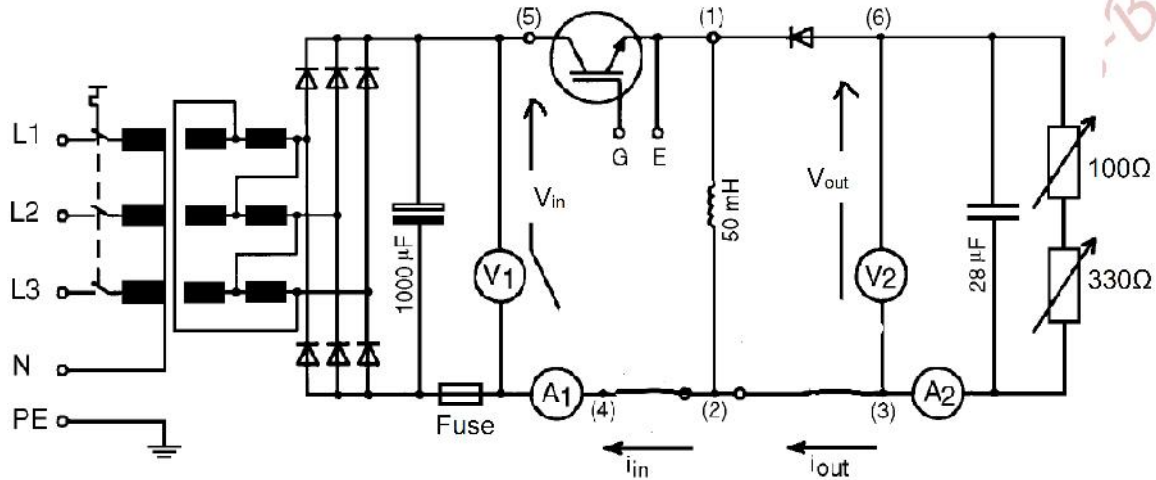

Figure 6.4 The equivalent power circuit of a Step-down/Step-up (Buck-Boost) converter implementing an IGBT
- The equivalent power circuit of the Step-down/Step-up (Buck-Boost) converter is shown in Figure 6.4. It implements an IGBT as a switch.
- A fuse (Fuse, Three-Fold, Super Fast Cat. No. 735 18) is connected at the lower side of the input to the Buck-Boost; between the Rectifier capacitor and the Buck-Boost, as shown in the equivalent power circuit of Figure 6.4.
- The IGBT receives the control pulse S_1 from the Control Unit for controlling; S_{1+} to the Gate terminal (G), and S_{1-} to the Emitter terminal (E)